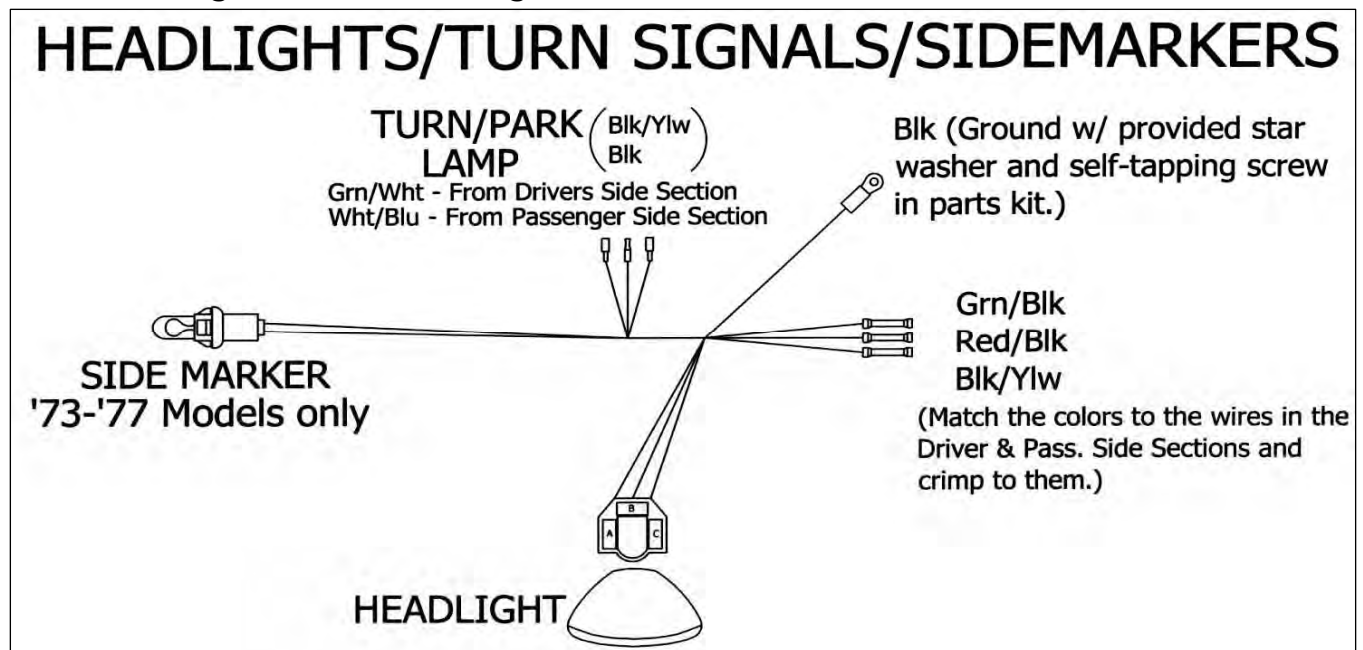

Figure 7-12 Headlights/Turn Signals/Side Markers '73-'77 Models
- 7.4.1** Locate the Passenger and Driver Side Headlight Pigtails in the parts kit. Install one of the Headlight Pigtails onto each headlight. Feed the wires from each pigtail through the core support and down to the back of each turn signal in the grill and in each wheel well. Using **Figure 7-12** connect the headlight pigtails to the Passenger and Driver Side Sections. **Note: '67-'72 Model Trucks use the headlight pigtails with the headlight connectors only. On these trucks the turn signal will be connected directly to the harness without a pigtail.**